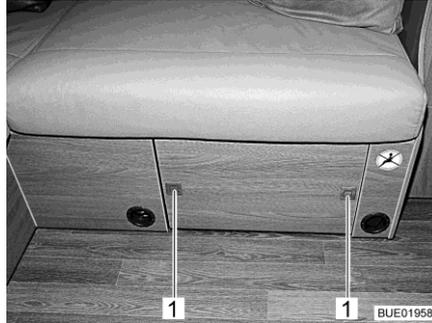

Fig. 135 Coffee table, stored
- Press the push buttons (Fig. 135,1) on the seat box panel. The push buttons jump out.
- Press the push buttons (Fig. 135,1) in until they engage.